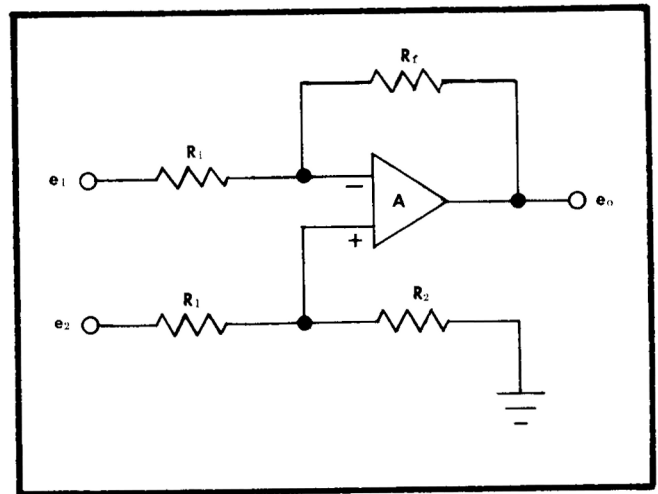
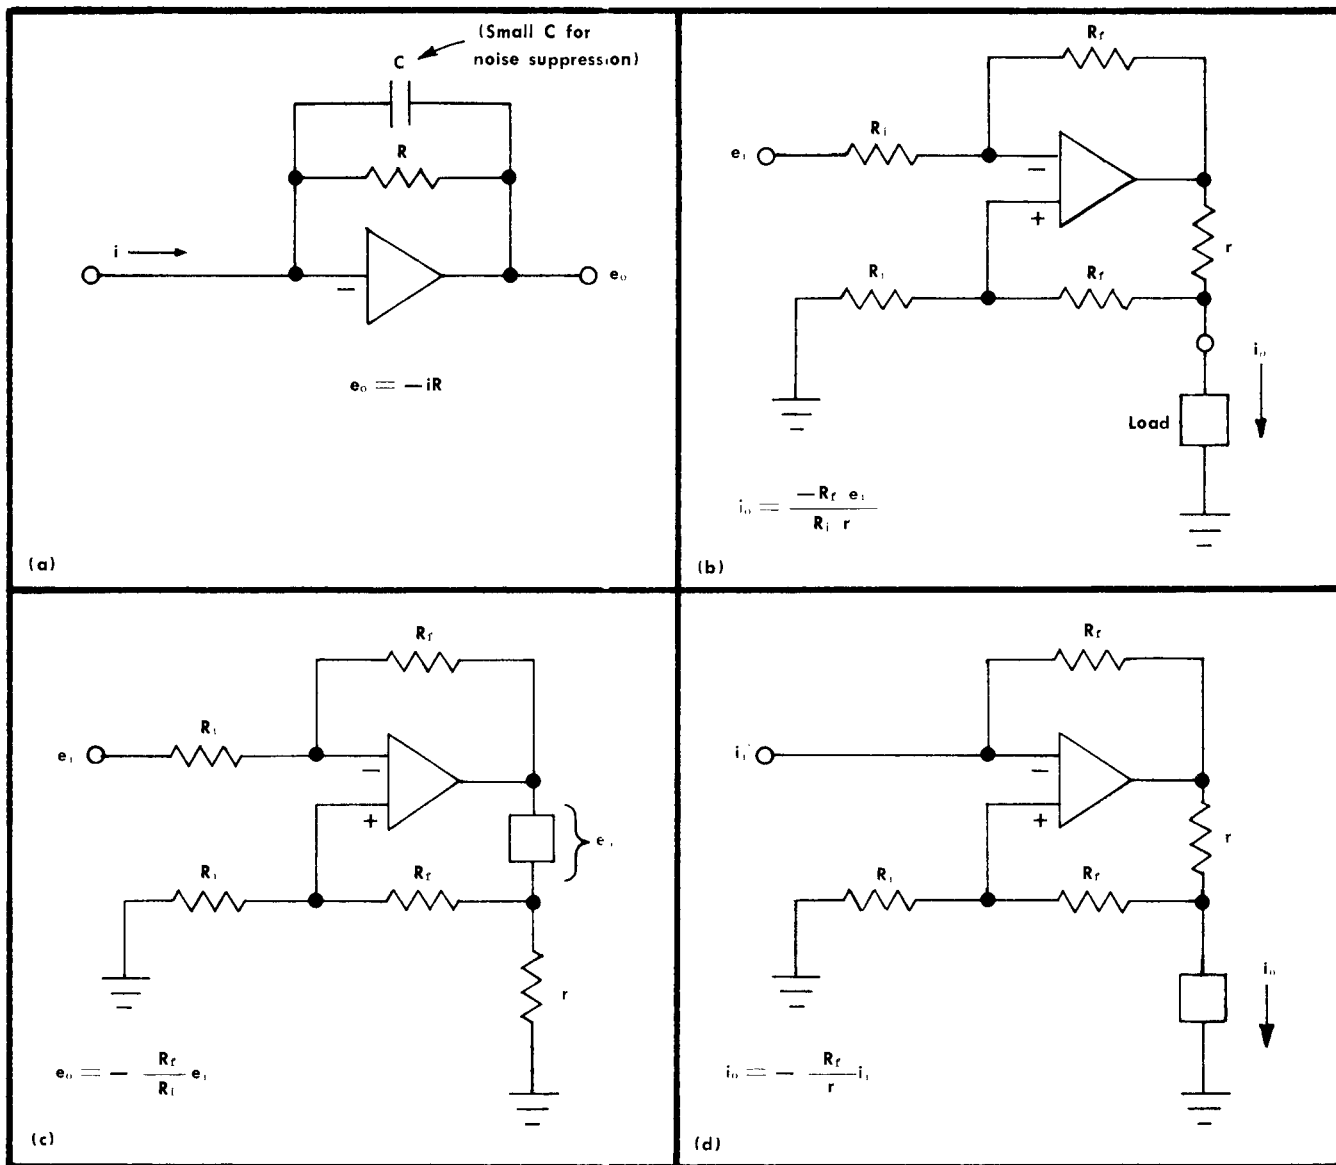

Fig. 3-2. Basic form of operational amplifier with both negative and positive active grids.
Fig. 3-3. Operational amplifiers in Voltage-Current conversions (a)  $i_{in}/-e_{out}$ ; (b)  $e_{in}/-i_{out}$ ; (c)  $e_{in}/-e_{out}$ ; (d)  $i_{in}/-i_{out}$ .
The most basic form of an operational amplifier, illustrated in Fig. 3-2, is a time insensitive circuit that includes both negative and positive feedback. While many versions of the basic form can be used in time insensitive circuits, the four most common forms are: (1) an input voltage generates an output voltage; (2) an input voltage generates an output current; (3) an input current generates an output voltage; and (4) an input current generates an output current. These four basic Operational Amplifiers are illustrated in Fig. 3-3, and various forms appear in the applications that follow.